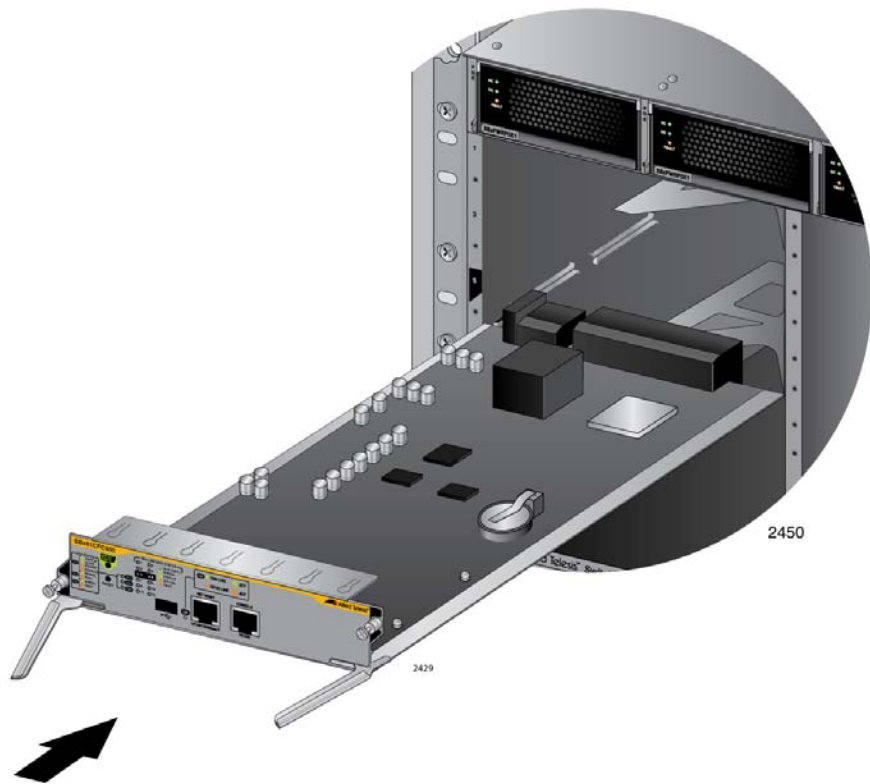

Figure 68. Aligning the AT-SBx81CFC400 Card in the Chassis Slot
6. Align the edges of the AT-SBx81CFC400 Controller Fabric Card with the internal chassis card guides in slot 5 or 6 of the AT-SBx8112 Chassis. Figure 68 on page 113 shows the AT-SBx81CFC400 Card aligned in slot 5.